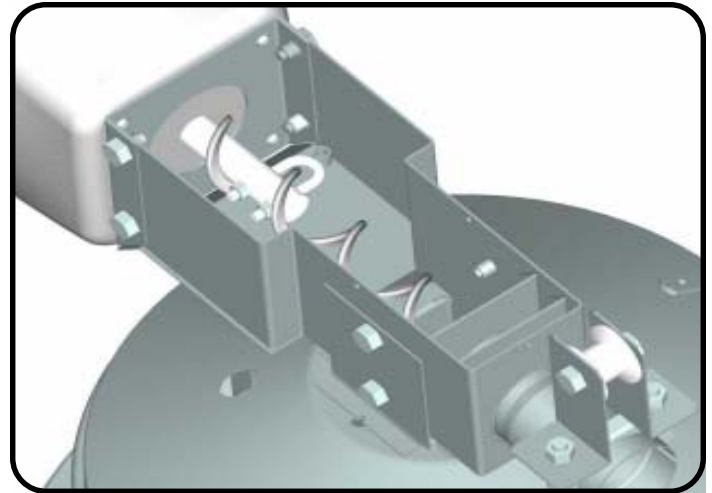

Figure 3
5. Loosen the U-bolt on the gearbox shaft and thread the auger through the U-bolt to within 1/2 inch (13mm) of the rear drive wall as shown in Figure 3. Tighten the U-bolt securely.